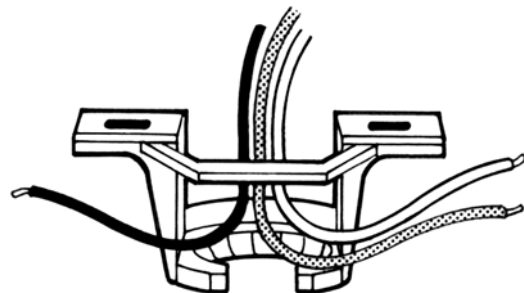

Fig. 2
*Pull the electric wires in the junction box down through the mounting bracket and then bend them up and back out of the way. This will leave the mounting bracket open and ready to receive the ceiling fan (*see figure 2*).*